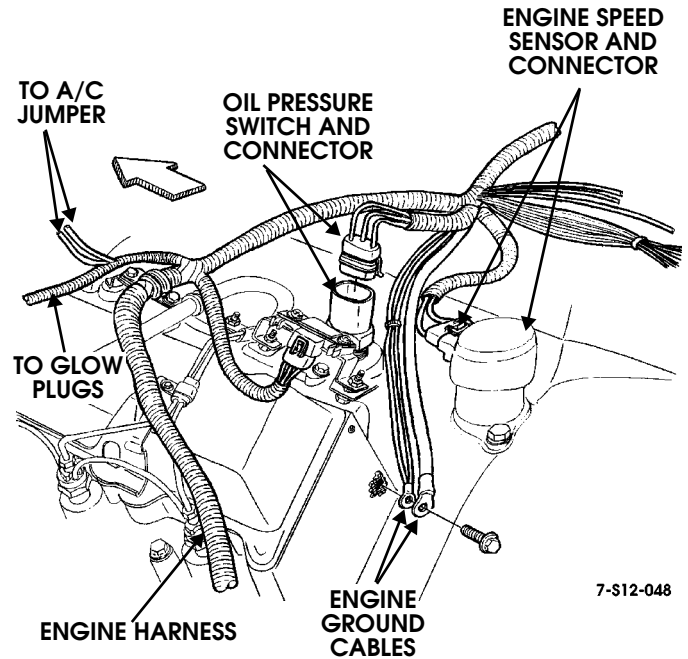

Figure 12-52: Engine Harness Connections at Rear of Engine (Non-Turbo Shown)
- oil pressure switch (Figure 12-52)
- engine speed sensor (Figure 12-52)
- engine ground cables (Figure 12-52)